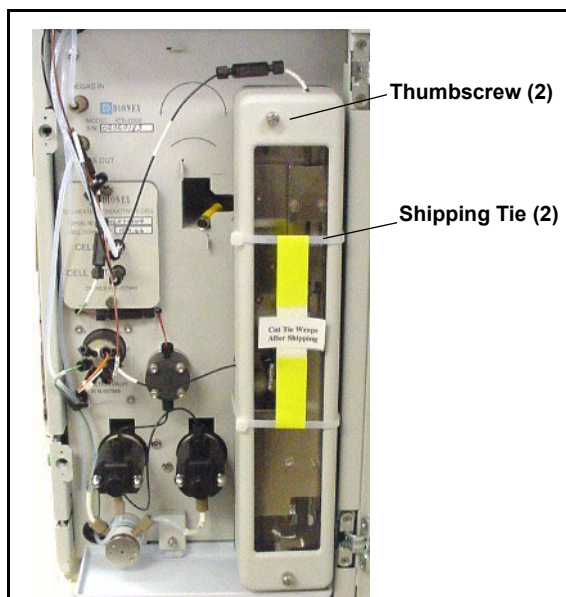

Figure B-17. ICS-1000 Column Heater Setup
1. Cut off the two shipping ties from the column heater and remove them (see Figure B-17).